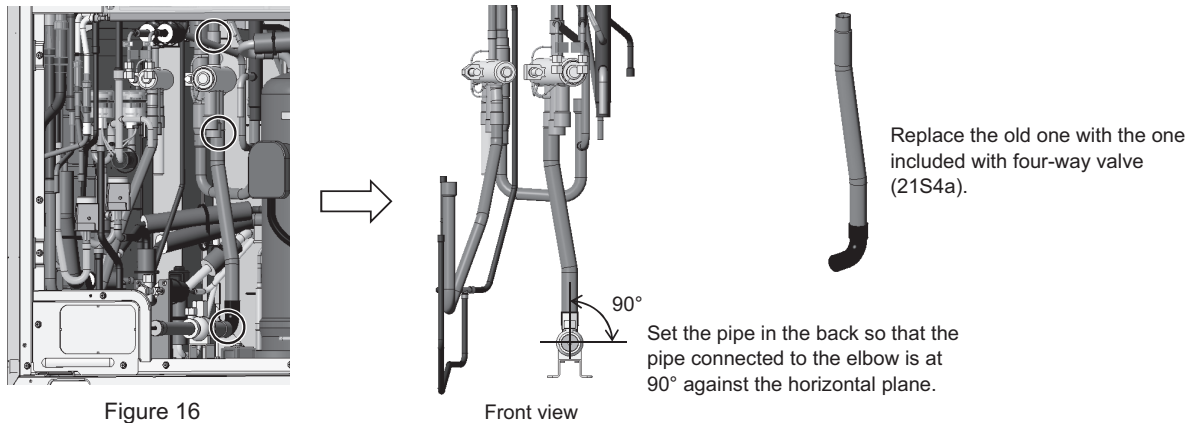

Figure 16
- (16A) Mount four-way valve (21S4a) to the pipe below four-way valve (21S4a) and on the back. A total of four areas require brazing, including the area indicated in (15A) and the areas indicated in Figure 16.